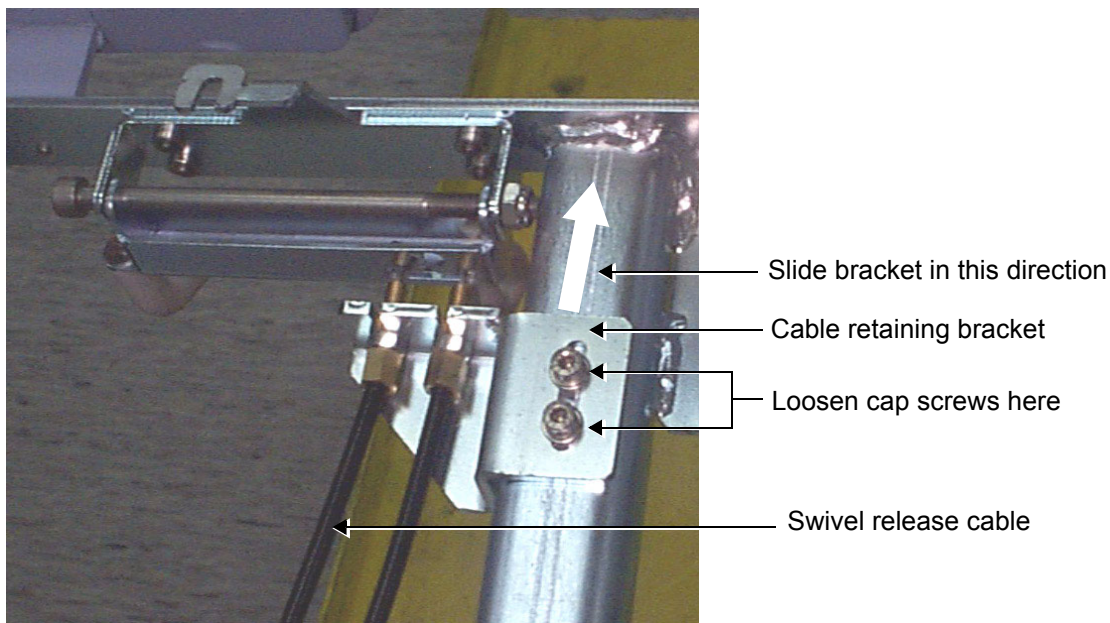

Figure 8-79 Swivel Release Cable and Retaining Bracket
- 5.) Slide the cable retaining bracket *backwards* (previously moved forwards) along the chassis beam sufficiently to regain tension on the cable. Using an M4 Allen key, tighten the two cap screws on the bracket to hold it firmly in position - refer to Figure 8-79 on page 8-96.